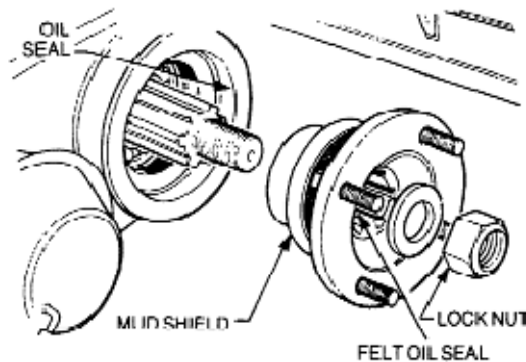

Figure 57 Output Shaft Cover Oil Seal Removal (Front)
- d. Remove the locknut and the flat washer (Figure 57). Discard the locknut.